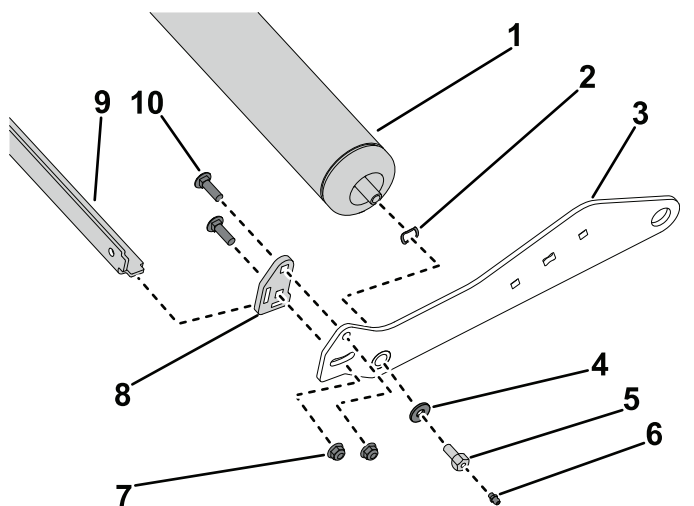

Figure 3
1. Insert the spring washer onto each end of the roller shaft (Figure 3).
2. Insert a roller arm onto each end of the roller shaft (Figure 3).
3. Secure the roller arm to the 2 roller shafts with the hardened washer (right side only) and 2 roller shaft screws. Thread the 2 grease fittings onto the 2 roller shaft screws if not previously assembled (Figure 3).
4. Insert the roller-scraper mounting tabs into the slots in each of the scraper arms (Figure 3).
5. Install the scraper arms to the roller arms (Figure 3).
6. On the left side of the roller arm, secure the scraper arm to the roller arm with 2 carriage screws (3/8 inch) and 2 nylock nuts (3/8 inch) (Figure 3). Repeat on the right roller arm.